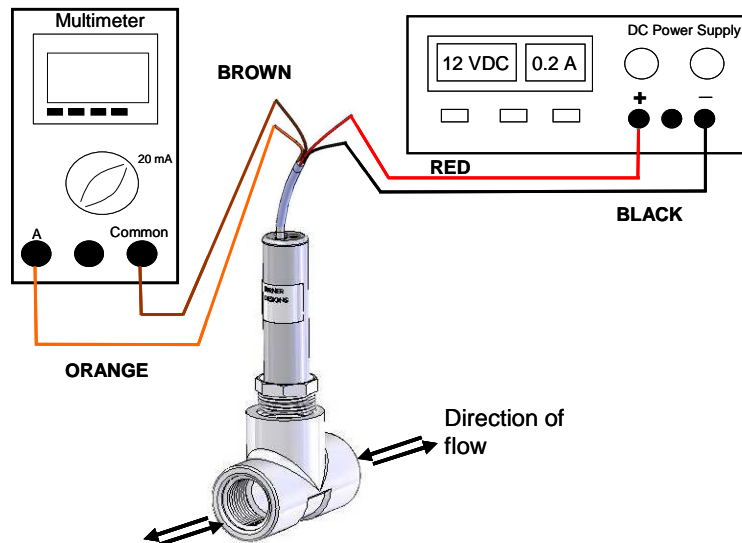

Figure 4
- 4) Be connected to a multimeter that is set to read current (mA) output. See Figure 4 below.